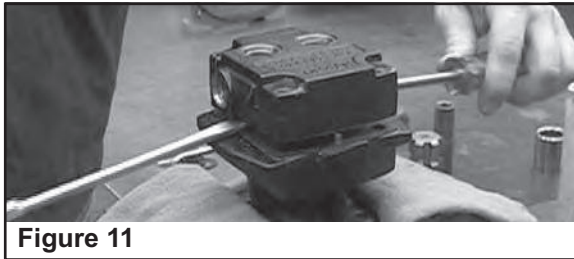

Figure 11
- If Motor End Plate will not lift off easily, use a small screwdriver to carefully pry apart the boss portion of the End Plate and Gerotor Housing until free (See Figure 11). If Gerotor Housing will not lift off easily, carefully pry